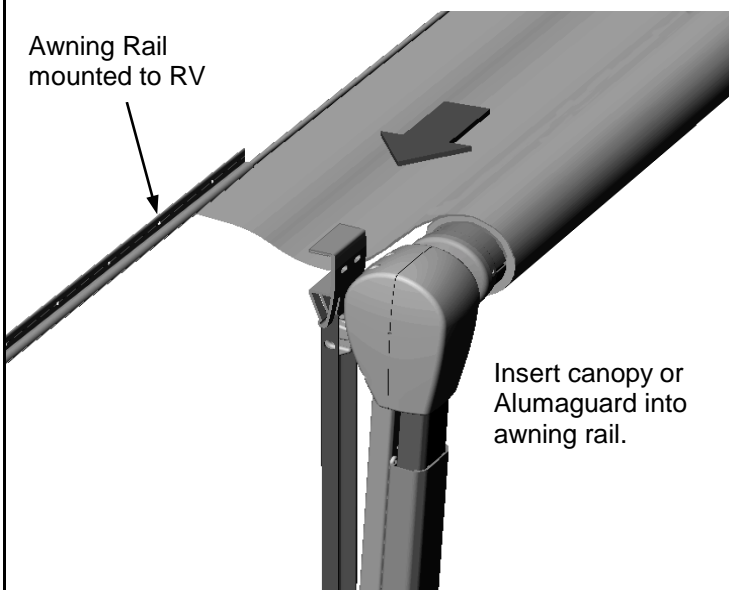

figure 7
F. Carefully slide the awning polyrod or the Alumaguard drip rail into the awning rail as the helpers alternately guide the front and rear arms (see figure 7).